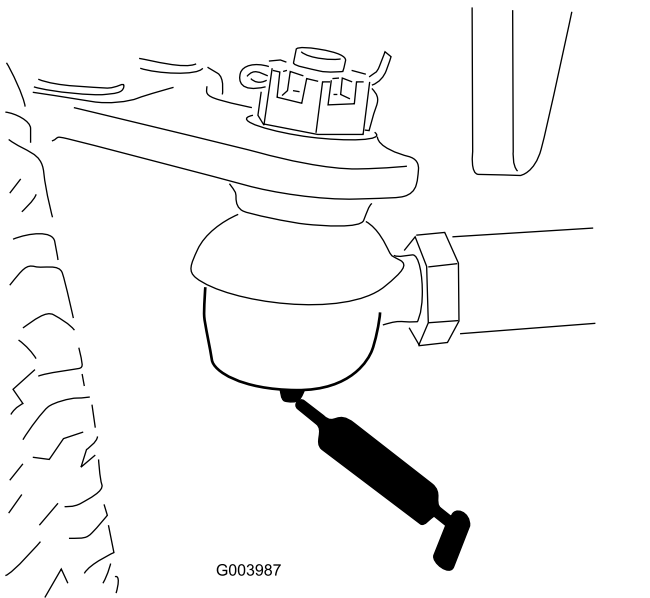

Figure 70
- Rear axle tie rod (2) (Figure 70)